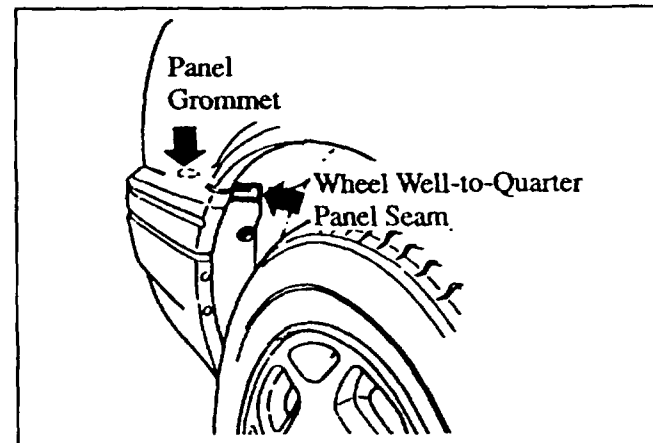

Figure 19: Wheel Well-to-Quarter Panel Seam
- Inner wheel well-to-trunk floor pan seam. **Figure 19.**